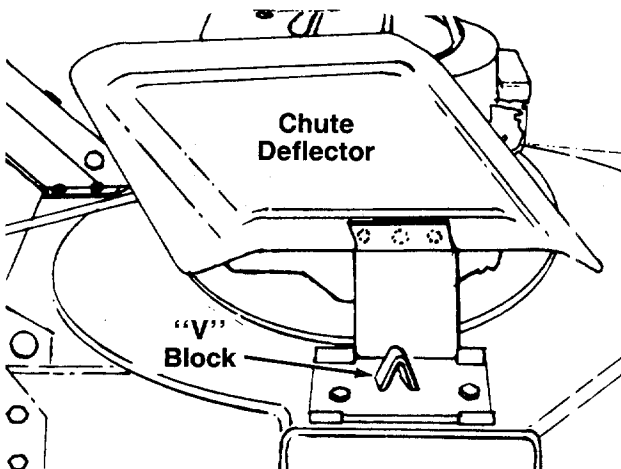

FIGURE 7.
1. The chute deflector on your mower is held in an upright position by a "V" block for shipping purposes only. This "V" block must be removed and discarded before the mower is put into operation. See figure 7.